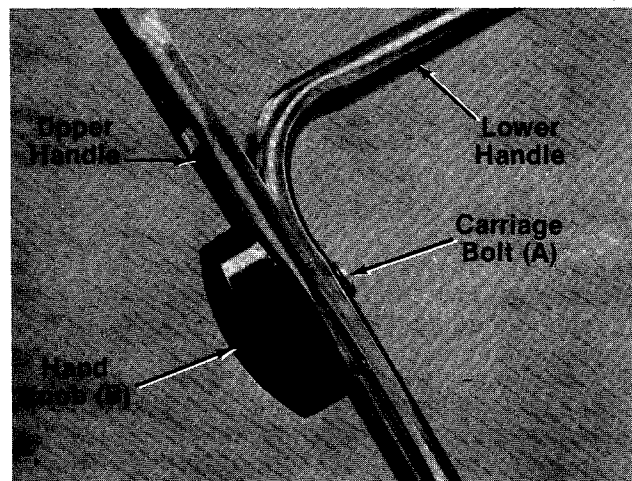
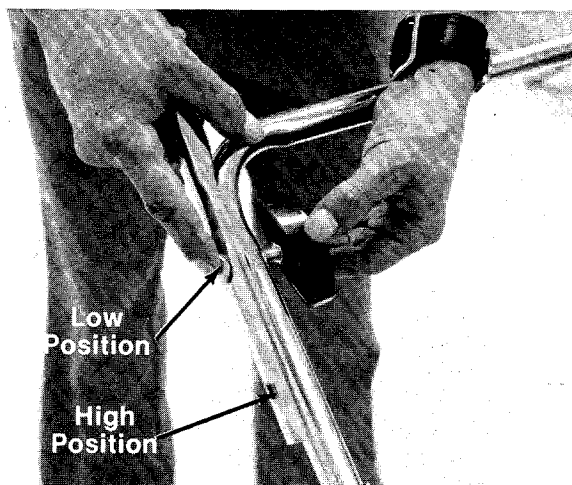

FIGURE 3.
FIGURE 20.
4. There are two height positions for the handle. Place upper handle (with the clutch control attached) in position over lower handle, selecting hole for either high or low position. Refer to figure 20. Secure upper handle with two curved carriage bolts (A) and hand knobs (B) as shown in figure 3. The knobs may be assembled either to the inside or the outside of the handle.
The upper handle can be adjusted to a high or low position. The operator of the lawn mower can easily adjust the handle position by unscrewing the two knobs, removing the two bolts and reassembling in the other position. No tools are necessary to make this adjustment. See figure 20.